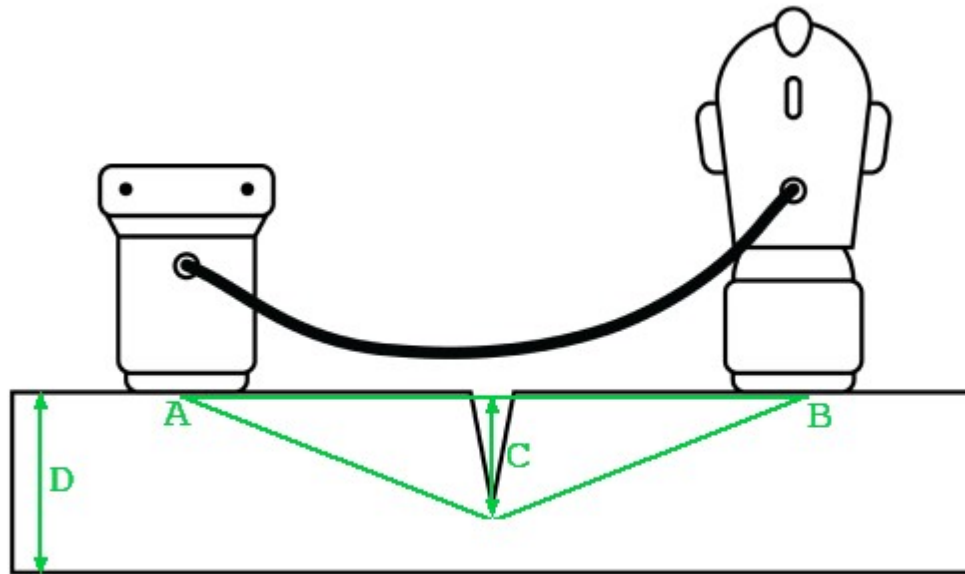

Figure 19: Crack detection parameters
During the measurements, keep the transmitter and the receiver orientation as shown in Figure 19. The transmitter is on the left-hand side. The LEMO connectors of both the transmitter and the receiver look in the same direction.
During the measurements, keep the transmitter and the receiver orientation as shown in Figure 19. The transmitter is on the left-hand side. The LEMO connectors of both transmitter and receiver look in the same direction.
The A1410 PULSAR detects the arrival time of the transmitted pulse analyzing some waveform events. The first event is waveform's first change from zero to minus values, see ❶ on Figure 19, also called the inflection point. The second event is the waveform's rise from minus values to zero forming a peak ❷, also called first negative peak.